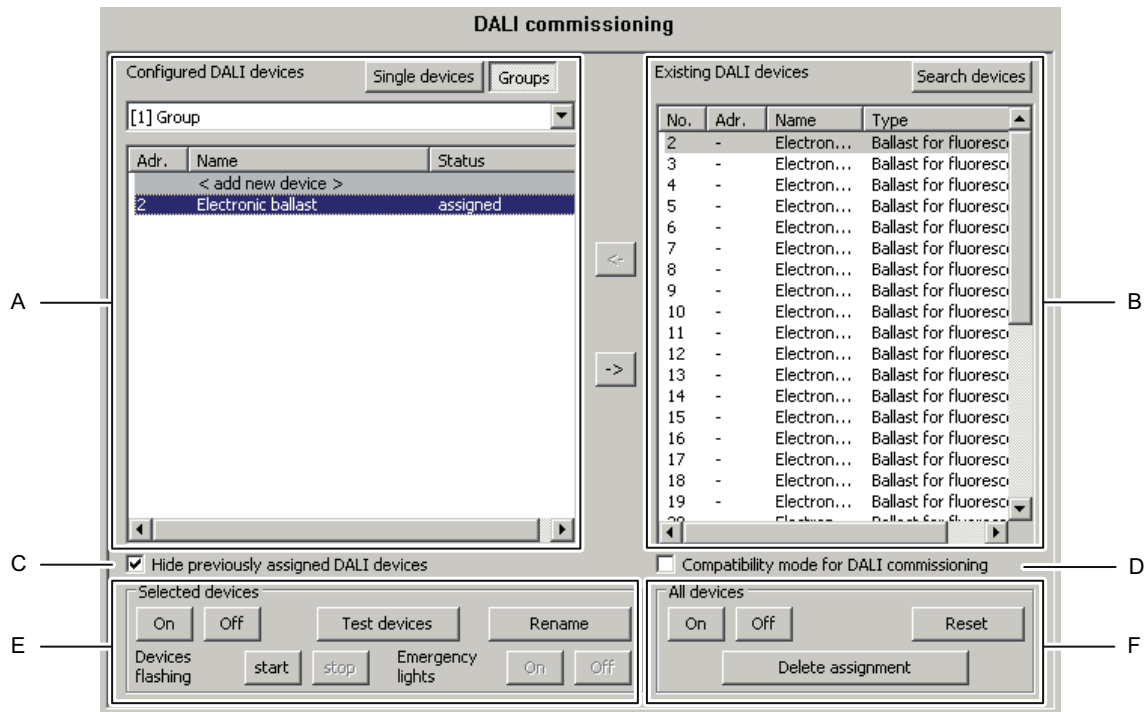

Figure 60: Panes of the commissioning environment
The commissioning environment of the plug-in is divided up into two panes. The right-hand pane lists the operating devices found in the DALI system. The left-hand pane displays the created groups. The assignment of the DALI devices to the programmed groups or single devices also takes place there (Figure 60).
During initial commissioning, no DALI operating devices are displayed in the right-hand window area (B) (Figure 60). To continue commissioning, the operating devices connected to the DALI cable must first be searched for. The DALI system must be fully connected and switched on without interruptions in order for the DALI Gateway to be able to find and identify all the connected DALI operating devices during the device search. In addition, the mains voltage supply of the DALI Gateway must be switched on.
For special cases, it is possible to assign operating devices for group control to more than just one DALI group. In the standard case, assignment of a DALI operating device is only possible in one device. This makes device assignment clear, and the unique assignment means that there are no group overlaps and, as a result, no influencing of configuration and feedback values. If necessary, multiple group assignment can be enabled as an alternative. To do this, the checkbox "Hide previously assigned DALI devices" (C) must be deselected in the Commissioning dialog of the plug-in (Figure 60). This means that it is then possible to assign DALI operating devices to more than just one group during online commissioning.
The DALI Gateway has a compatibility mode for supporting non-DALI-conformant operating devices. This means that the commissioning process becomes distinctly more tolerant towards specific DALI commissioning parameters, which means that operating devices not fully compliant with the DALI specification can be commissioned, possibly subject to functional restrictions. Compatibility mode relates solely to DALI commissioning and explicitly to the operation to search for devices. Compatibility mode is activated when the checkbox "Compatibility mode for DALI commissioning" (D) is selected in the DALI commissioning window of the ETS plug-in (Figure 60).